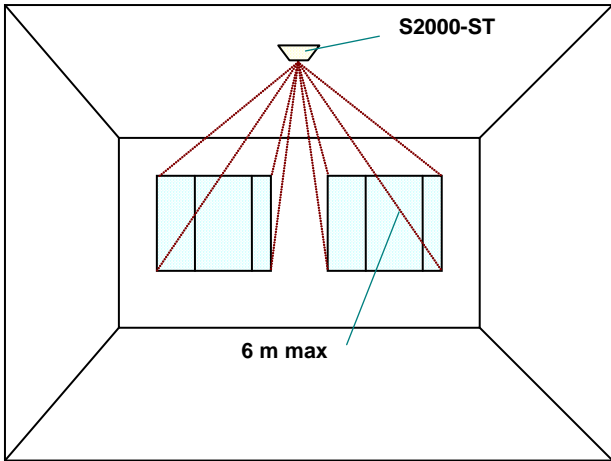
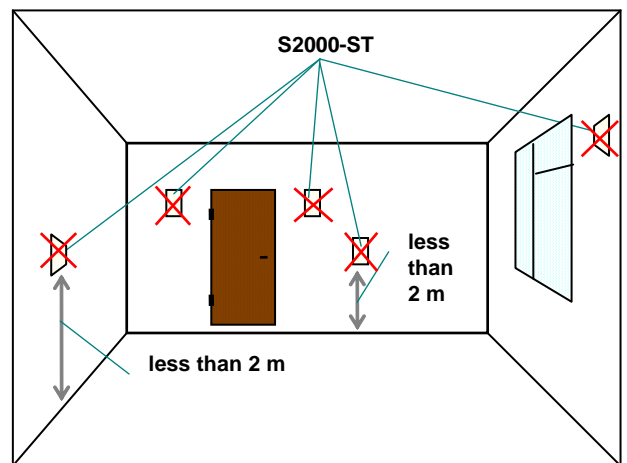

Figure 2: Ceiling Mounting
Figure 7: Poor Mounting Locations
- The detector is recommended to be installed at the height of at least 2 m (Figures 2 to 7);
Figures 2 to 7 display optimal S2000-ST rev.03 mounting locations while Figure 7 shows an example of wrong installation.